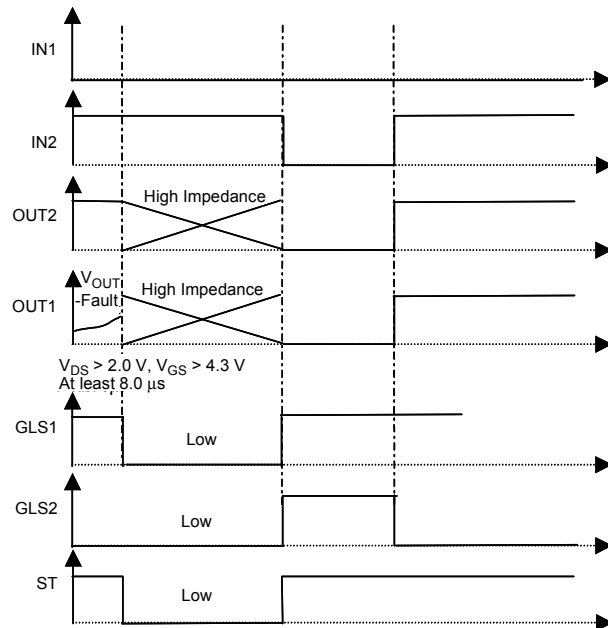

Figure 22. Overload on Low-Side 1
13. When a short to  $V_{BAT}$  of one of the low-side MOSFETs occurs, both outputs are opened to prevent the motor from running. Once the low-side overcurrent is removed, the input INn of the output that experienced the fault must be reset in order to recover the normal operation mode. Figure 22. Overload on Low-Side 1, page 18, shows an example. If an overload happens in low-side 1, OUT1 and OUT2 are both put in high impedance. IN2 must be reset to recover normal mode.